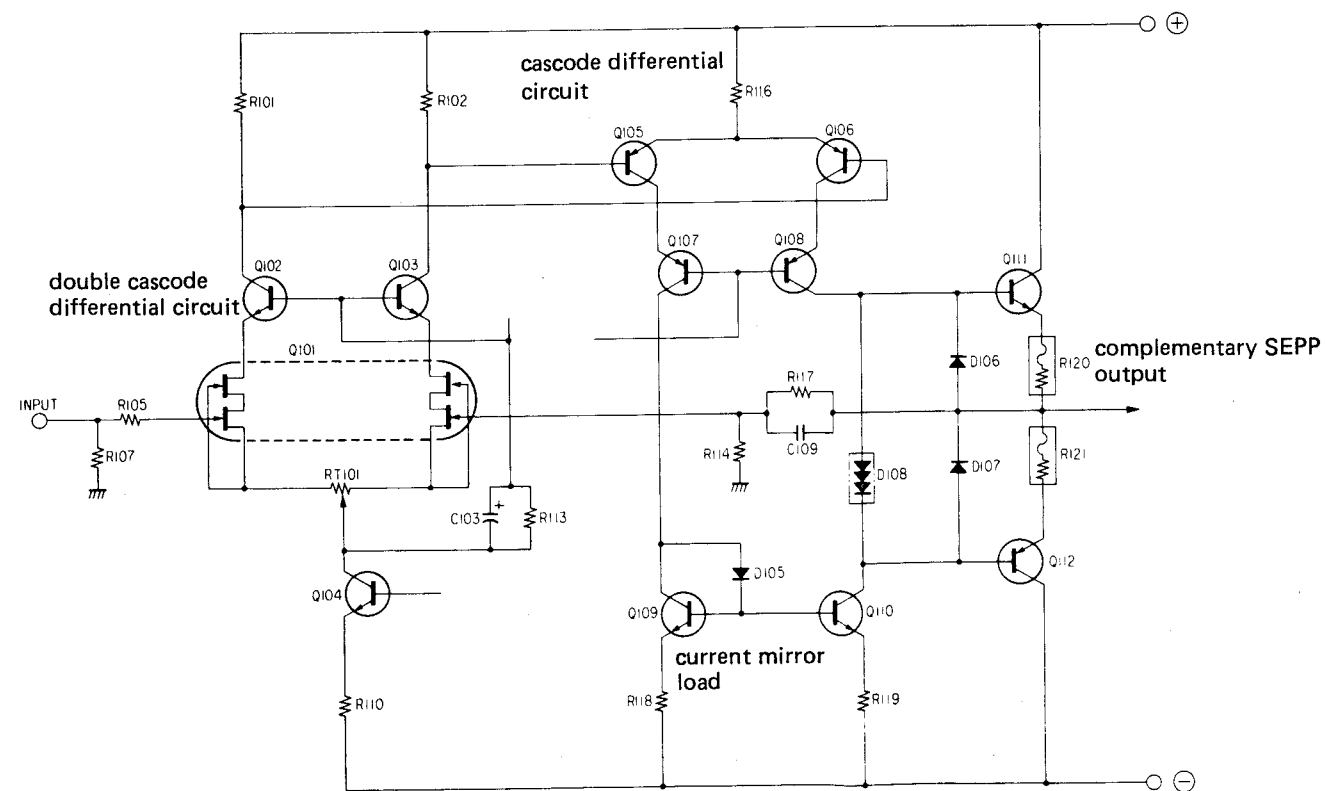

Figure 2
1. Preamplifier (Refer to Figure 2)